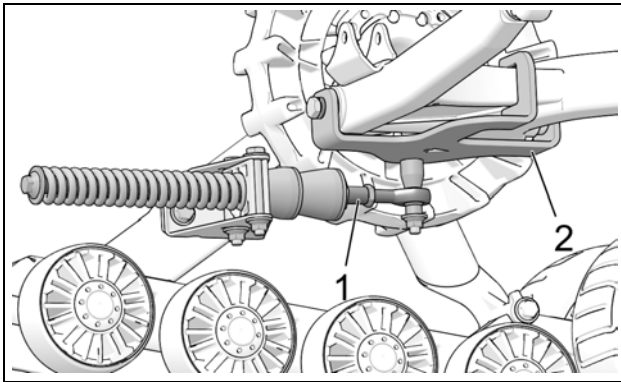

Figure 16
- Stabilizing arm (1) must be attached to the rear anchor bracket (2) installed on the vehicle. See Figure 16.
*NOTE: Actual Rear Anchor bracket (2) installed on vehicle may differ from the one in the illustration.*